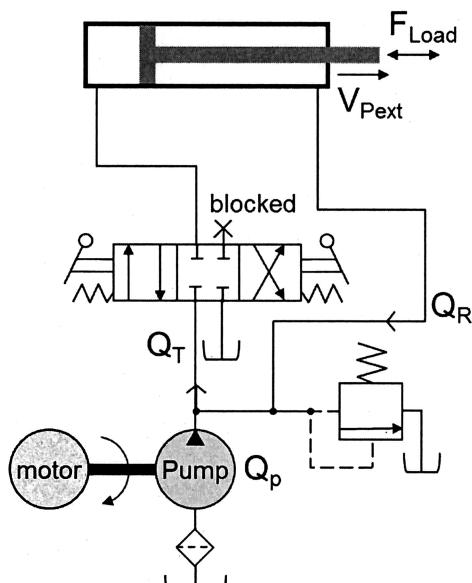

Figure 3: Regenerative Circuit.
- (b) A double acting cylinder is hooked in the regenerative circuit as shown in Figure 3. The relief valve setting is at 105 bars. The cylinder has a piston diameter of 63 mm and a rod diameter of 25 mm. If the pump flow is 45 lpm, determine the cylinder speed and the load carrying capacity for the
- (c) List a typical application of regenerative circuits. Describe the operation of the regenerative circuit as shown in Figure 3. When the directional control valve is actuated, comment on the cylinder speed and the load carrying capacity for the extending and retracting stroke, and also for the case when the piston area is twice of the rod area.